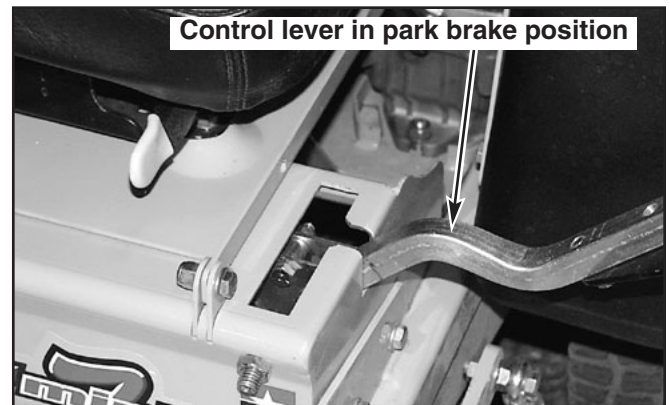

Figure 11-29
9. Place the control lever in the park brake slot (Fig. 11-29). The tire should not rotate when the control lever is in the park brake position.